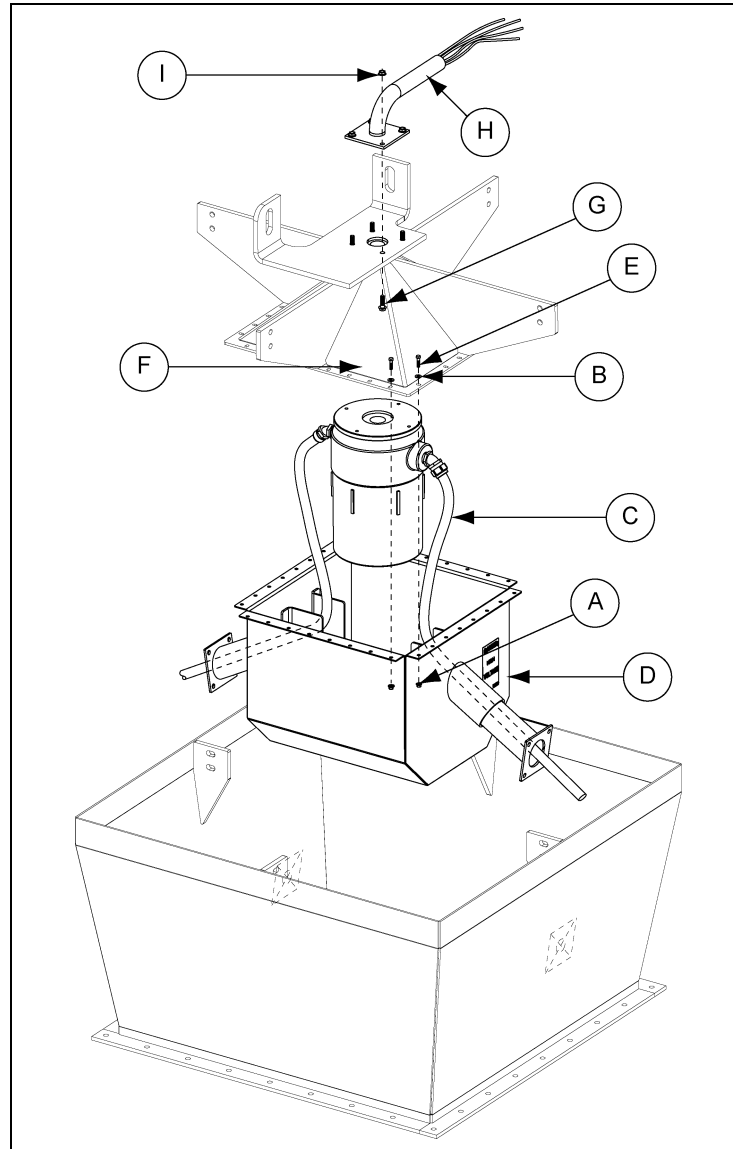

Figure 6B
1. Guide the lower flex conduit (C) through the collector ring shield (D). (See Figure 6B.)
2. Install the cross brace and collector ring assembly (F) to the collector ring shield (D) and secure with hex bolts (E), flat washers (B) and hex nuts (A). Tighten to specifications. (See Table on Page 21.)
3. Install the pivot tube (H) to the top of the cross brace and collector ring assembly (F) and secure with hex bolts (G) and nuts (I). Tighten to specifications. (See Table on Page 21.)